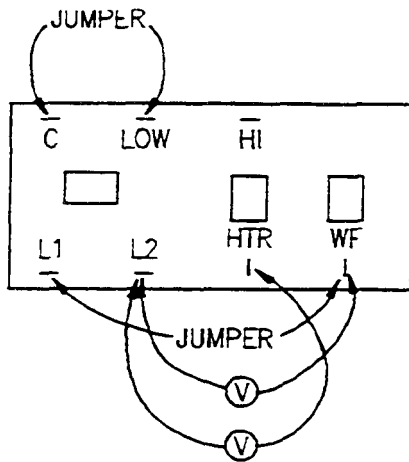

Figure 5-20- Water Level Control Unit
- Refer to Figure 5-20 and remove LOW connection (white/orange wire) at Control Board.
6. Refer to Figure 5-20 and if the unit does not steam, jumper Control Board terminal LOW to ground.
- Remove HI connection (white/yellow wire) at Control Board. See Figure 5-20.
6. Refer to Figure 5-20 and if the generator does not fill, replace Control Board terminal HI wire.
- Refer to Figure 5-20 and Jumper Control Board terminal HI to ground.